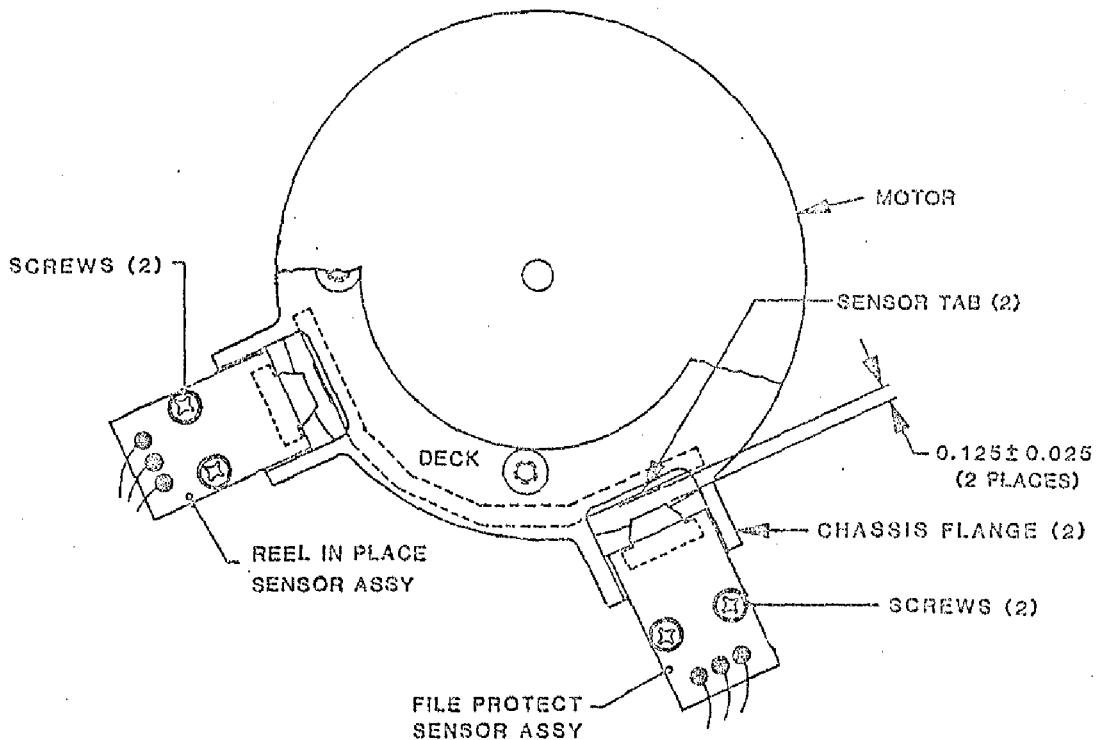

Figure 5-11. File-Protect and Reel-In-Place Sensor Assemblies (Bottom View)
5.3.14 REEL-IN-PLACE SENSOR ASSEMBLY (Fig. 5-11)
5.3.15 FILE-PROTECT SENSOR ASSEMBLY (Fig. 5-11)